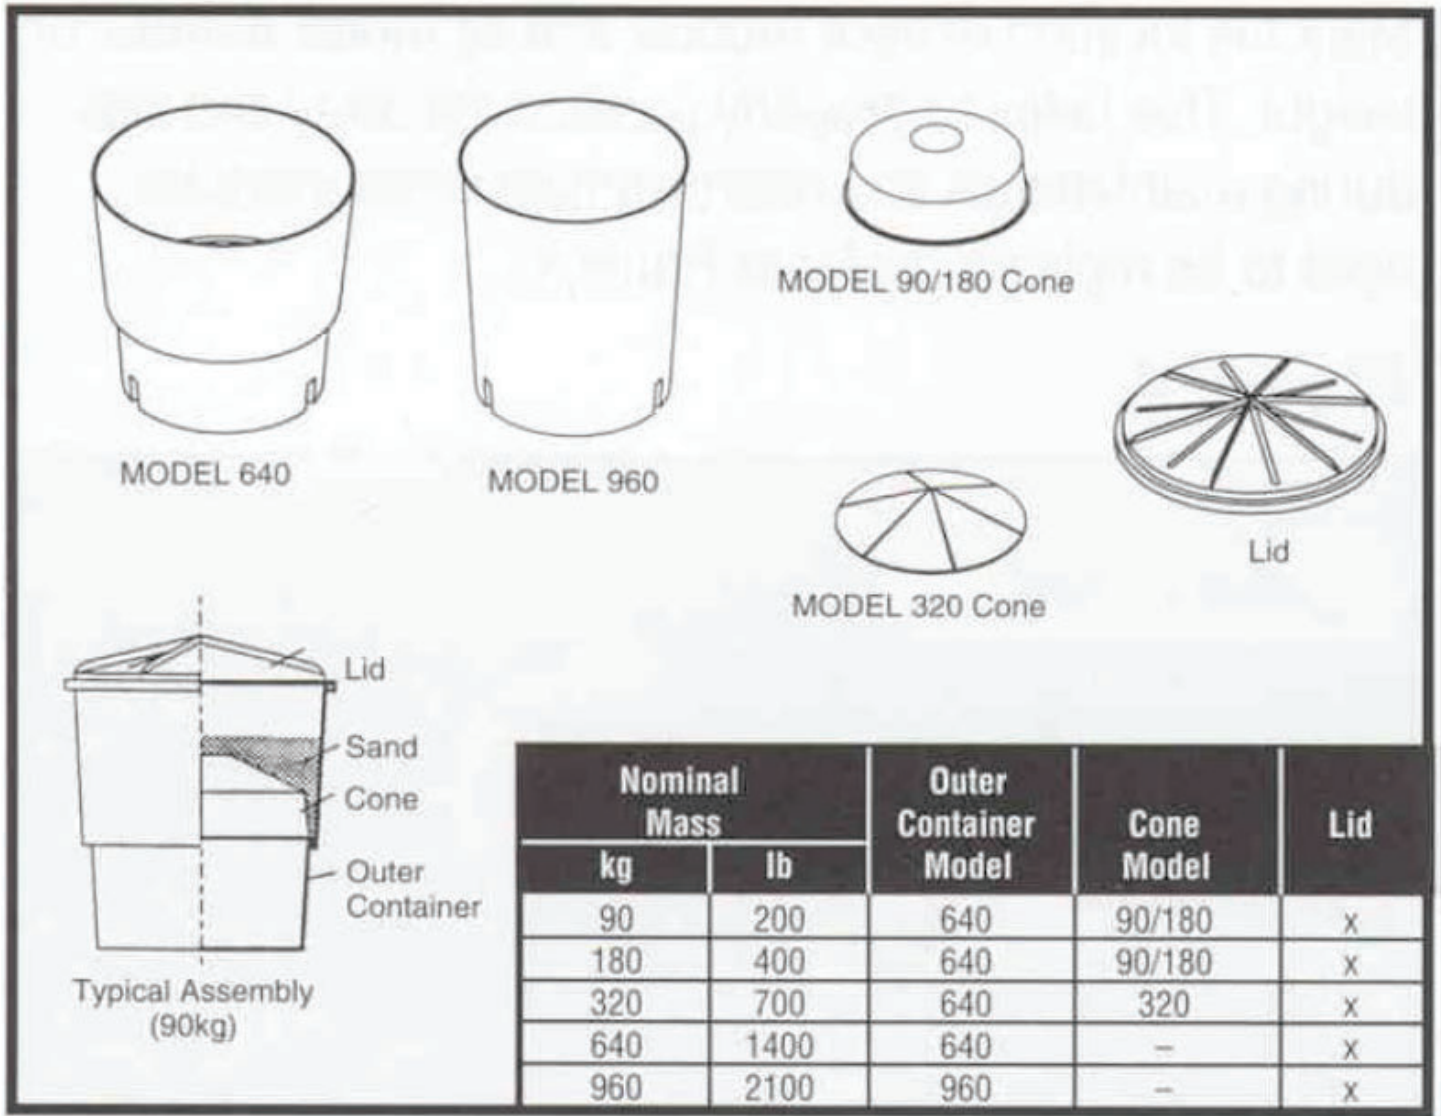

Figure 1
The Energite® III modules are available in 90, 180, 320, 640 and 960 kg (200, 400, 700, 1400 and 2,100 lb.) sizes (Figures 1 and 2).
2. Place the appropriate inner cones on the ledge inside the Barrel for the 200, 400 and 700 lb. (90, 180 and 320 kg) modules. (The 1400 – 2100 lb (640 - 960 kg) modules do not require a Cone insert.) Refer to page 6 (Figure 1) of this manual for a drawing and description of the module components.
Place the appropriate inner cones on the ledge inside the Barrel for the 200, 400 and 700 lb. (90, 180 and 320 kg) modules. (The 1400 – 2100 lb (640 - 960 kg) modules do not require a Cone insert.) Refer to page 6 (Figure 1) of this manual for a drawing and description of the module components.